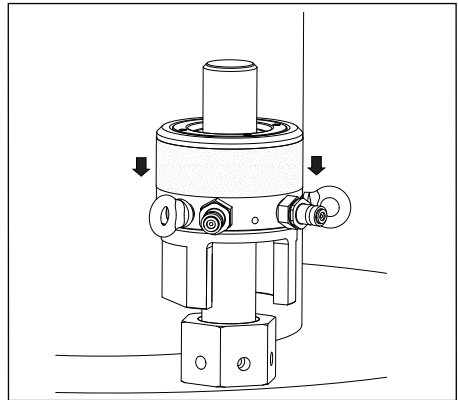

FIGURE 8, PLACE TENSIONER ONTO TO STUDBOLT
2. Assemble one tensioner onto every bolt (every other bolt for 50% coverage) by sliding them over the bolt protrusions. See Figure 8.